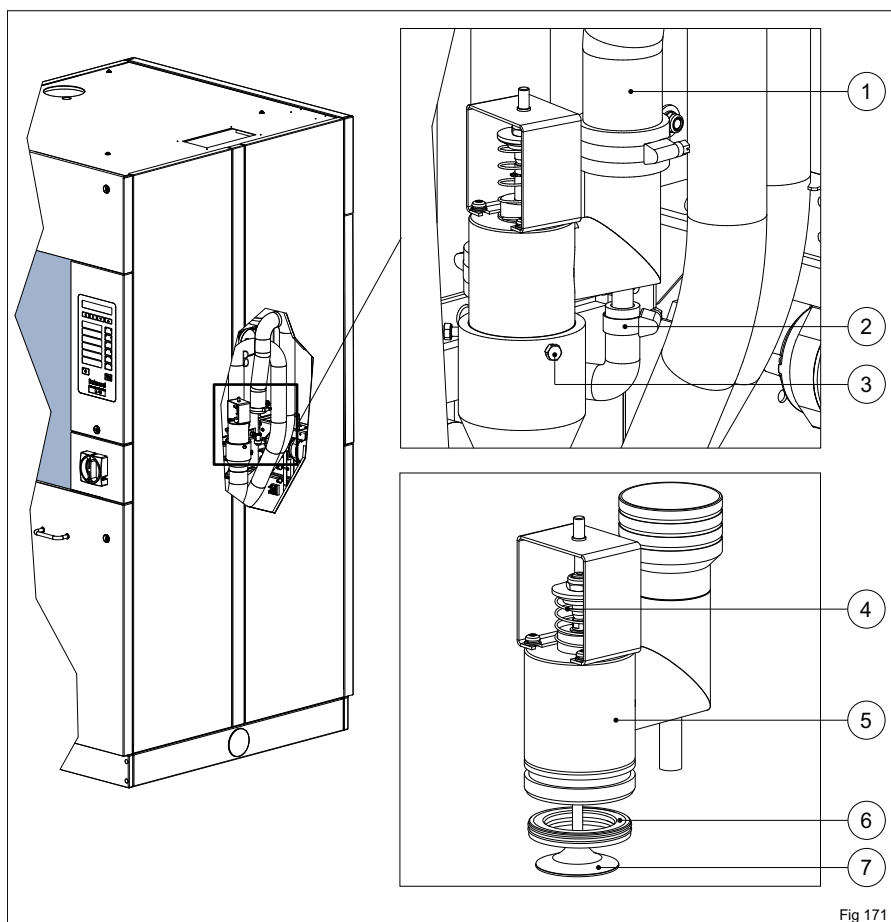

Fig 171
- ▶ Dismantle air tube (Fig. 171 Pos.1) and formed tube (Pos.2)